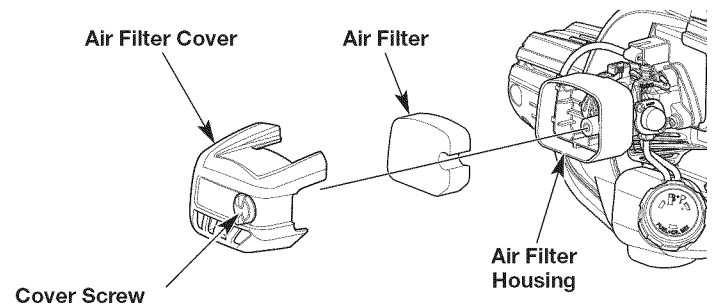

Fig. 18
1. Open the air filter cover by unscrewing the cover screw (Fig. 18).
2. Remove the air filter from inside the air filter housing (Fig. 18).